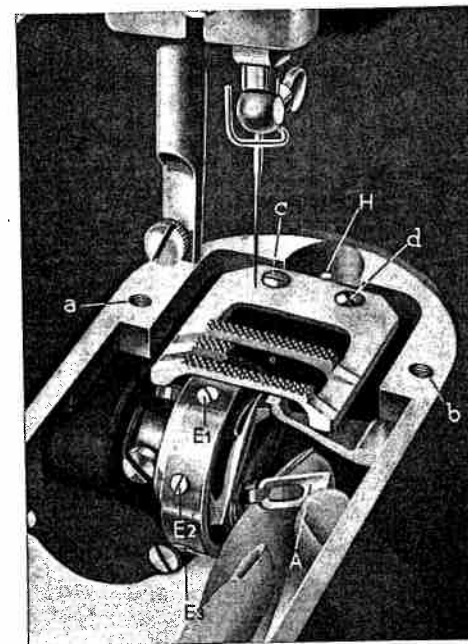
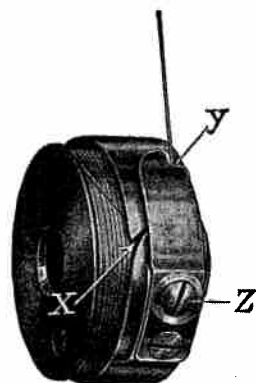

Fig. 5
Fig. 11
3. To remove bobbin case (Fig. 5)
If the tension is too loose, take the bobbin case out of the machine (Fig. 5), and tighten the small tension screw (Z) in a clockwise direction with the aid of the screw driver. If the tension is too tight, unscrew it in a counter-clockwise direction. (Fig. 11).